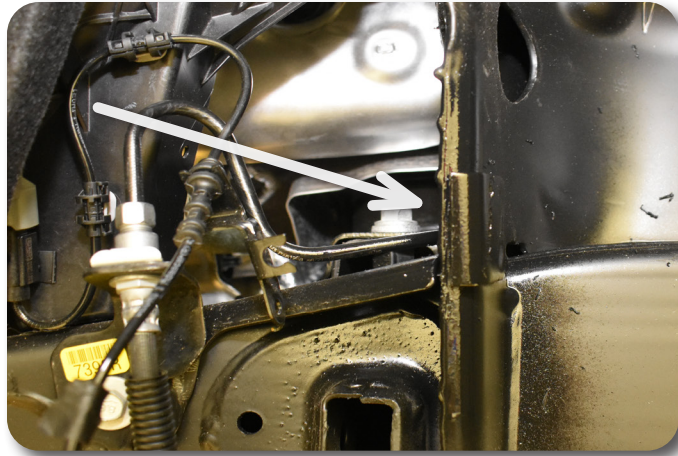

Figure 36
55. Cut the factory droop limiter from the side of the strut bucket as shown in **Figure 36**.